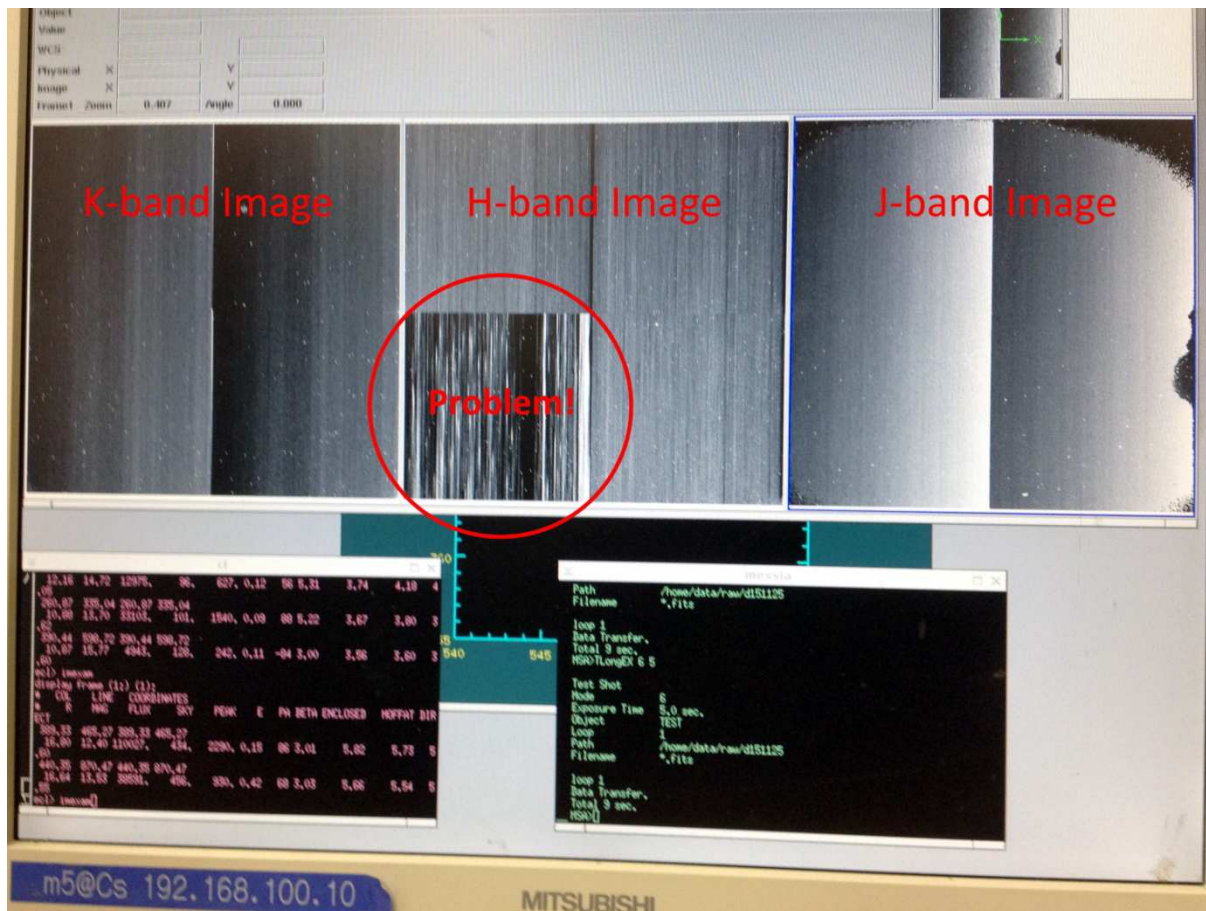

Fig. 1 Screenshot of m5, identifying the respective bands and showing an example of a fault
1. Introduction: The Sirius instrument on IRSF produces three simultaneous images of a starfield in the K-, H- and J-band respectively. It happens, from time to time, that one of these bands produces garbled images (circled, Fig. 1). This document gives some background and procedures for faultfinding such problems, based on a fault which occurred in November 2015.
Since each band reads out through four amplifiers, a problem with one amplifier shows up as in Fig. 1 above.
1) **Test 1: Swopping H- and K-band cable looms:** We found that the cable looms are too short to swop in the instrument, so we swopped both the black and white looms at the D-type connectors. The attached image (see Fig. 1) shows that the fault shifted to the H-band panel, suggesting a faulty cable as you said.
2) **Test 2: Swop only the black cable looms (ADCs swopped):** To do this, after Test 1, we simply swopped the white looms back. The fault remained with the H-band panel (Fig. 1), suggesting the white loom of the K-band could be the fault.